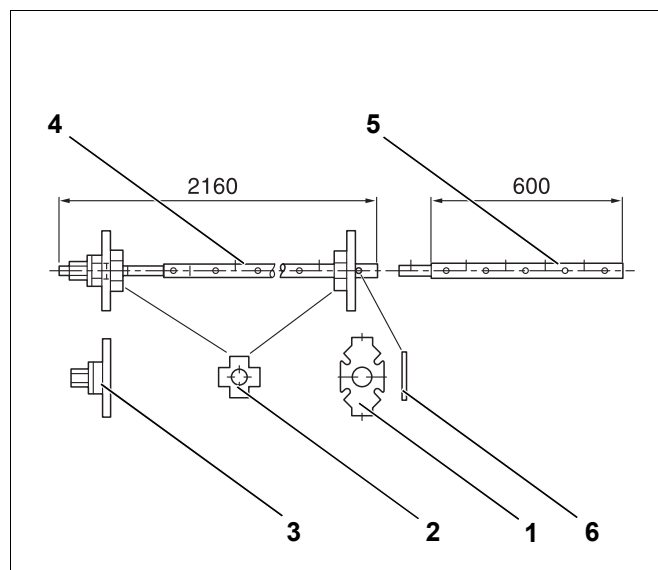
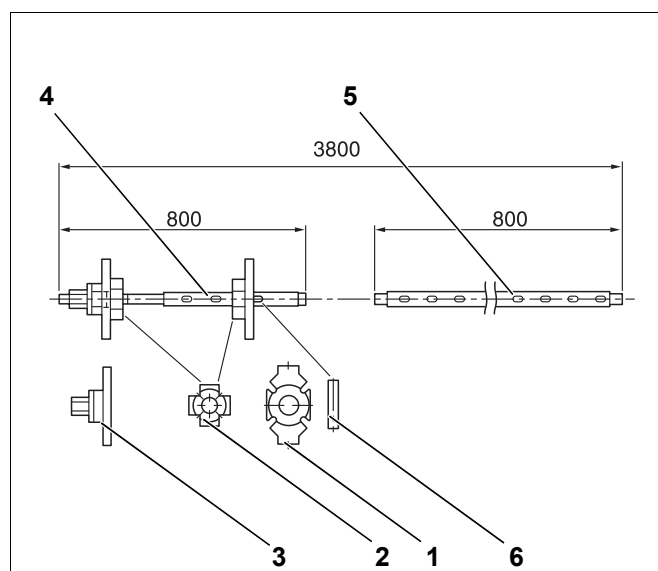

Fig. 4 Boiler compression tool size 2.2 (dimensions in mm)
Fig. 5 Boiler compression tool size 2.3 (dimensions in mm)
- Boiler compression tool 2.2 (Fig. 4, page 15) or 2.3 (Fig. 5, page 15)